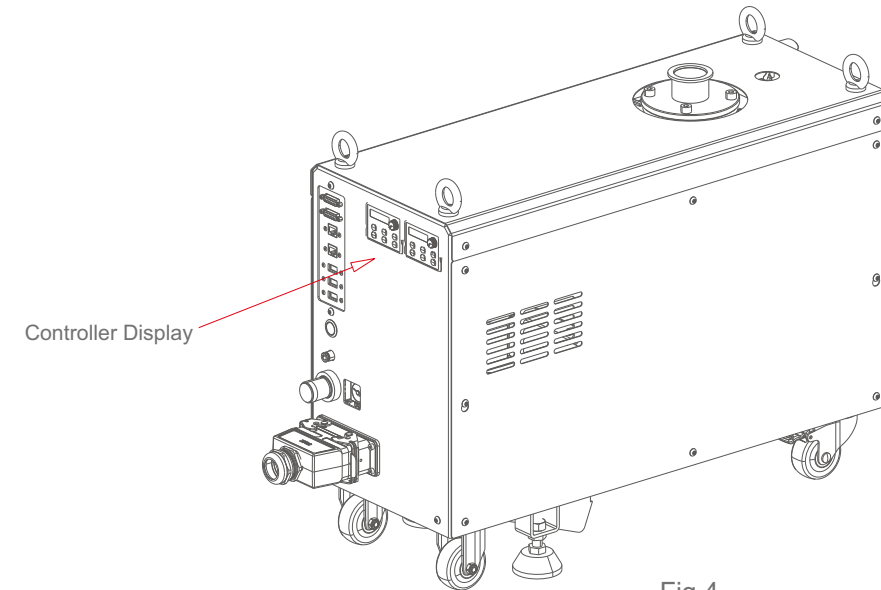

Fig.4
As shown in Figure 4, the controller display is located at the indicated position.
In high-dust, high-corrosivity, or high-water-vapor environments, if unscheduled stops recur, it may be due to solid-liquid mixtures adhering inside the pump clearances, increasing the load. As per the requirements in Figure 4. Record the controller error code. Solution for Cause 2:
1. As per Figure 4 requirements, check if the controller current is normal;